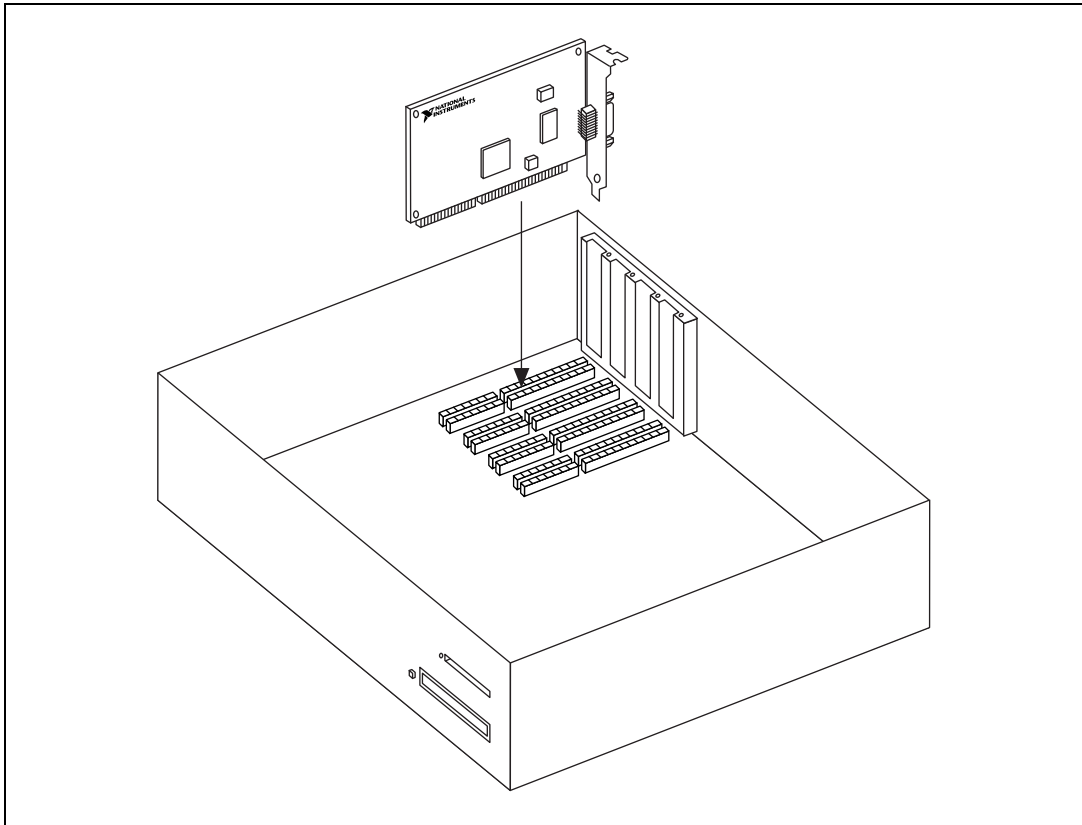

Figure 2-5. Installing the AT-FBUS Board
4. As shown in Figure 2-5, insert the AT-FBUS board into any unused 16-bit ISA slot with the Fieldbus connector sticking out of the opening on the back panel. Make sure all pins are equally far into the connector. Although it might be a tight fit, do not force the board into place.